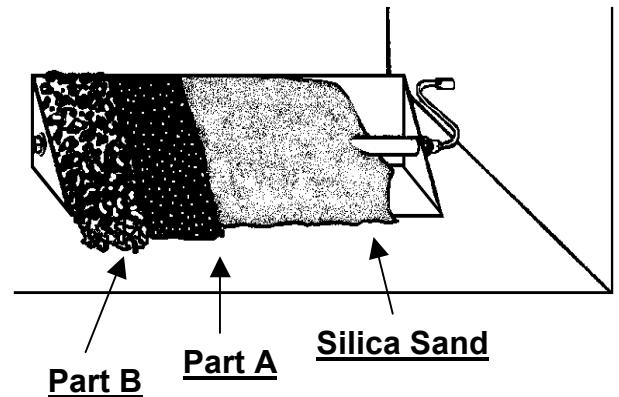

Figure 3
3. **Part B Embers** (rockwool) are placed over the sand to simulate glowing embers. For best results pinch off pieces of the Part B material the size of a dime and feather it out. Place as much as desired over the area the gas comes through. (See Figure 3.)
See Fig. 3